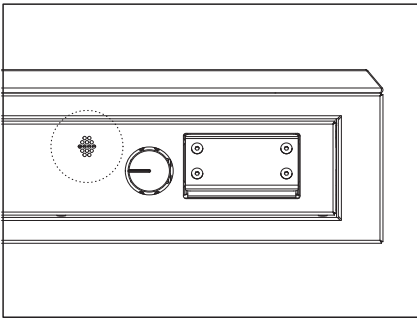

FIGURE 6
3. Keep HOLD of the panel and LOOK through view hole (Figure 6) for flame. Repeat step 2 until lit.